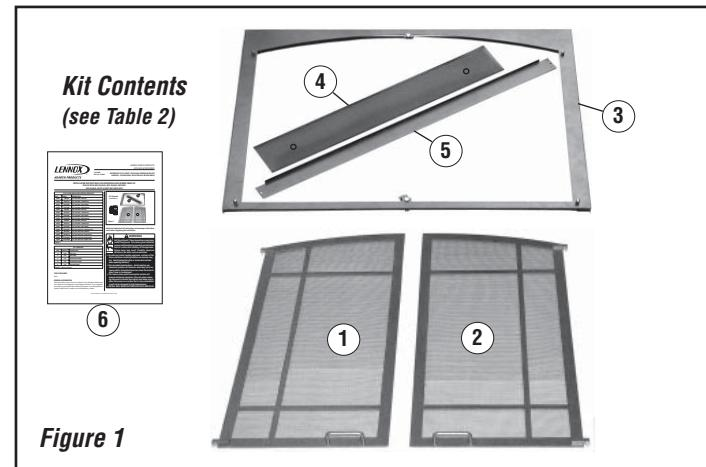

Figure 1
Table 2 - Refer to Figure 1
Step 2 - Install the Firebox Bottom Cover Panel (#5 in Figure 1) using the existing screws that were removed. The top two holes on the panel align to corresponding holes on fireplace.